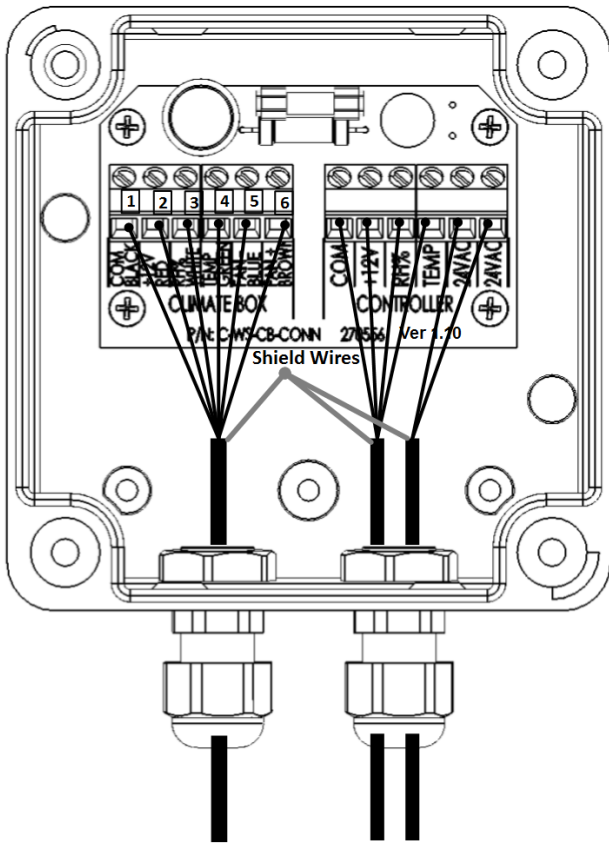

Figure 4: Connection Box shield cables wrap
2. Strip the Connection Box shield cables and wrap them together as shown in Figure 4.